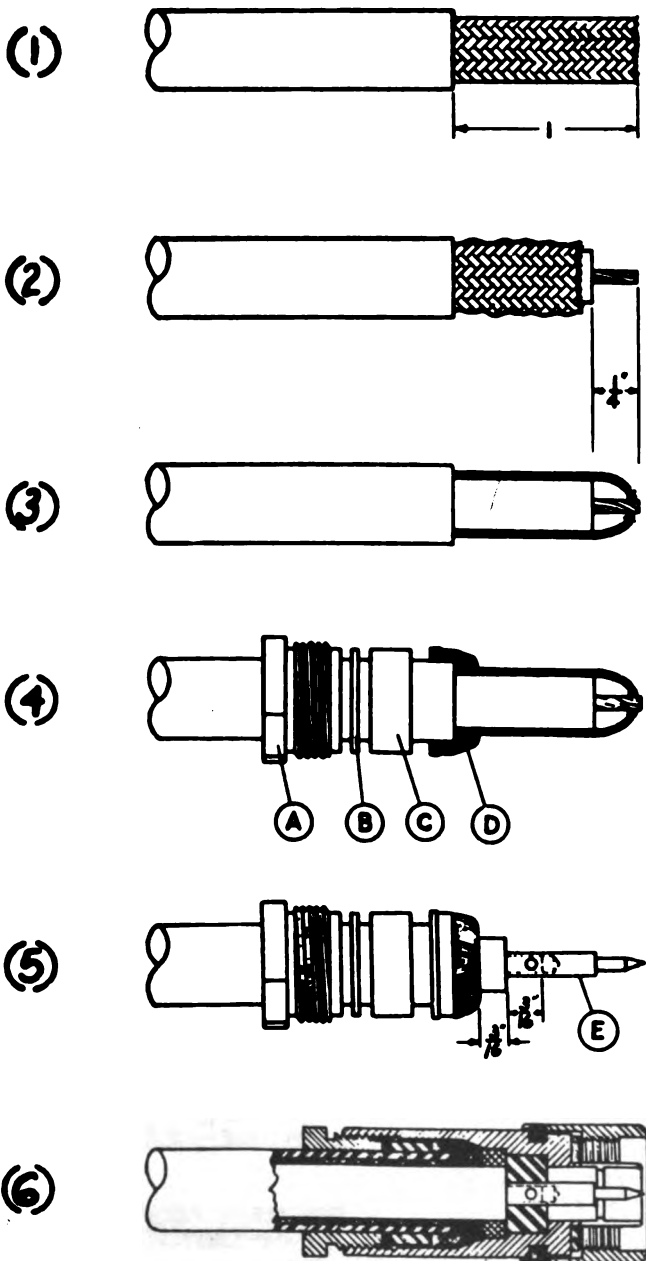

Figure 5-3
(1) Cut back the vinylite jacket square and even as shown.
(2) Push back braid and cut off 1/4 inch of cable dielectric.
(3) Pull braid forward and taper toward center conductor.
(4) Insert cable into clamping nut (a), thin metal washer (b), rubber washer (c), and clamping sleeve (d) in the order shown. Be sure that the clamping sleeve (4) clears all braid wires and that its internal shoulder rests squarely against end of vinylite jacket.
(5) Unbraid the wires of the inner shield, spread them open, and cut off excess wire. Each wire must end before reaching the rear shoulder of part (d). Cut off the dielectric 1/4" from the wires on the front face of part (d). Cut off the center conductor 1/8" from end of dielectric.
(6) Make a shield of sheet metal to protect the dielectric. Wrap the dielectric with a wet cloth.
(7) Silver solder "tin" the end of the center conductor. Use a hot flame, being careful to deflect most of the heat away from the dielectric. Work as rapidly as possible for best results.
(8) Remove the shield and cut off the dielectric 3/16" from the wires on the front face of part (d). Make the cut square and even, and do not nick the center conductor.
(9) Place the bullet (e) on the center conductor so that it just touches the dielectric and soft solder it in place. Feed solder through the hole in part (e). Wipe off excess solder while hot. Do not get solder or flux on the dielectric, and work quickly to avoid melting the dielectric.
(10) Insert cable into plug as far as it will go. Push rubber washer (c) and thin metal washer (b) into body and tighten clamping nut (a). Hold body with wrench and tighten clamping nut (a). Do not allow body or cable to rotate during this operation.
c. Figure 5-3 shows the steps in making up a cable of RG-9A/U cable for use with this echo box. Such a cable should not be under 25 feet long, nor over about 75 feet long. Follow this exact procedure step by step:
(4) Insert cable into clamping nut (a), thin metal washer (b), rubber washer (c), and clamping sleeve (d) in order as indicated. Be sure that clamping sleeve (d) clears all braid wires and its internal shoulder rests squarely against end of vinylite jacket.
(5) Unbraid the wires of the outer shield and cut them off square with the end of part (d). Unbraid the